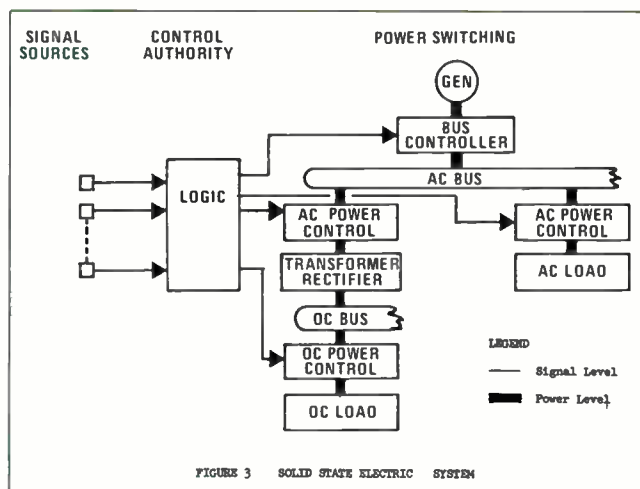

FIGURE 3 SOLID STATE ELECTRIC SYSTEM
A concept was developed which separates power and signal switching and utilizes solid state devices to perform all of the switching and circuit protection functions presently performed by electromechanical switches, relays and circuit breakers. This concept makes maximum usage of the advantages of semiconductor devices and minimizes their disadvantages. The solid state electric system shown in Figure 3 is composed of three basic building blocks, namely: (1) signal sources, (2) control logic (including bus monitoring and built-in test) and (3) power controllers (bus switching and load controllers). Signal sources are transducers which provide a digital output. They are used to sense controlling functions, such as temperature, pressure, mechanical motion, etc. Their output signals are fed into the control logic unit where they are correlated in a prescribed manner to provide a signal to control the power controllers. The logic switching is performed by standard integrated circuit NAND/NOR gates to provide maximum reliability with minimum space and weight.